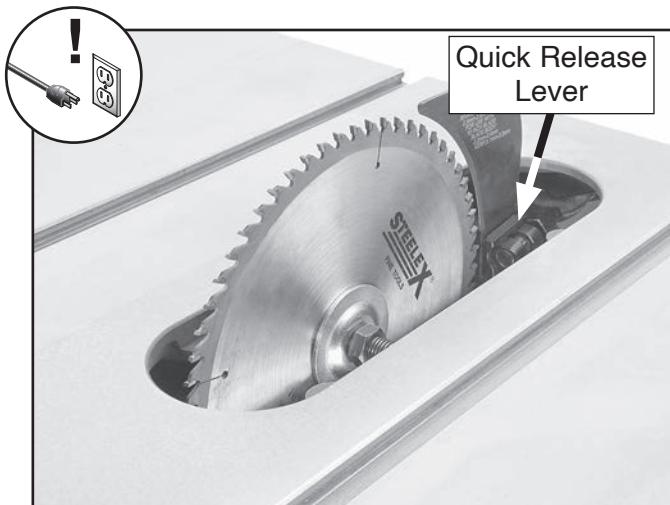

Figure 115. Quick release lever.
3. Loosen quick release lever shown in **Figure 115**.
4. Loosen (2) cap screws on mounting block, then adjust set screws on block to move it in necessary direction (see "Mounting Block" inset in **Figure 115**).
7. Tighten (2) cap screws on mounting block to secure spreader/riving knife adjustment.